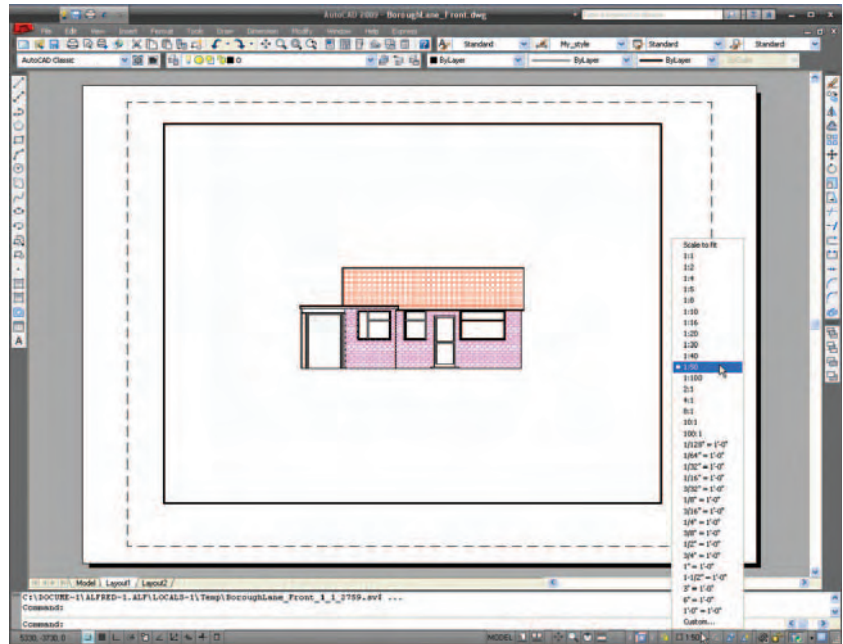

Fig. 21.3 First example – annotation scaling. The front views scaled to 1:50
3. *Click* **1:50** in the Annotation Scaling menu and the front view changes to show a scale **1:50** front view (Fig. 21.3).